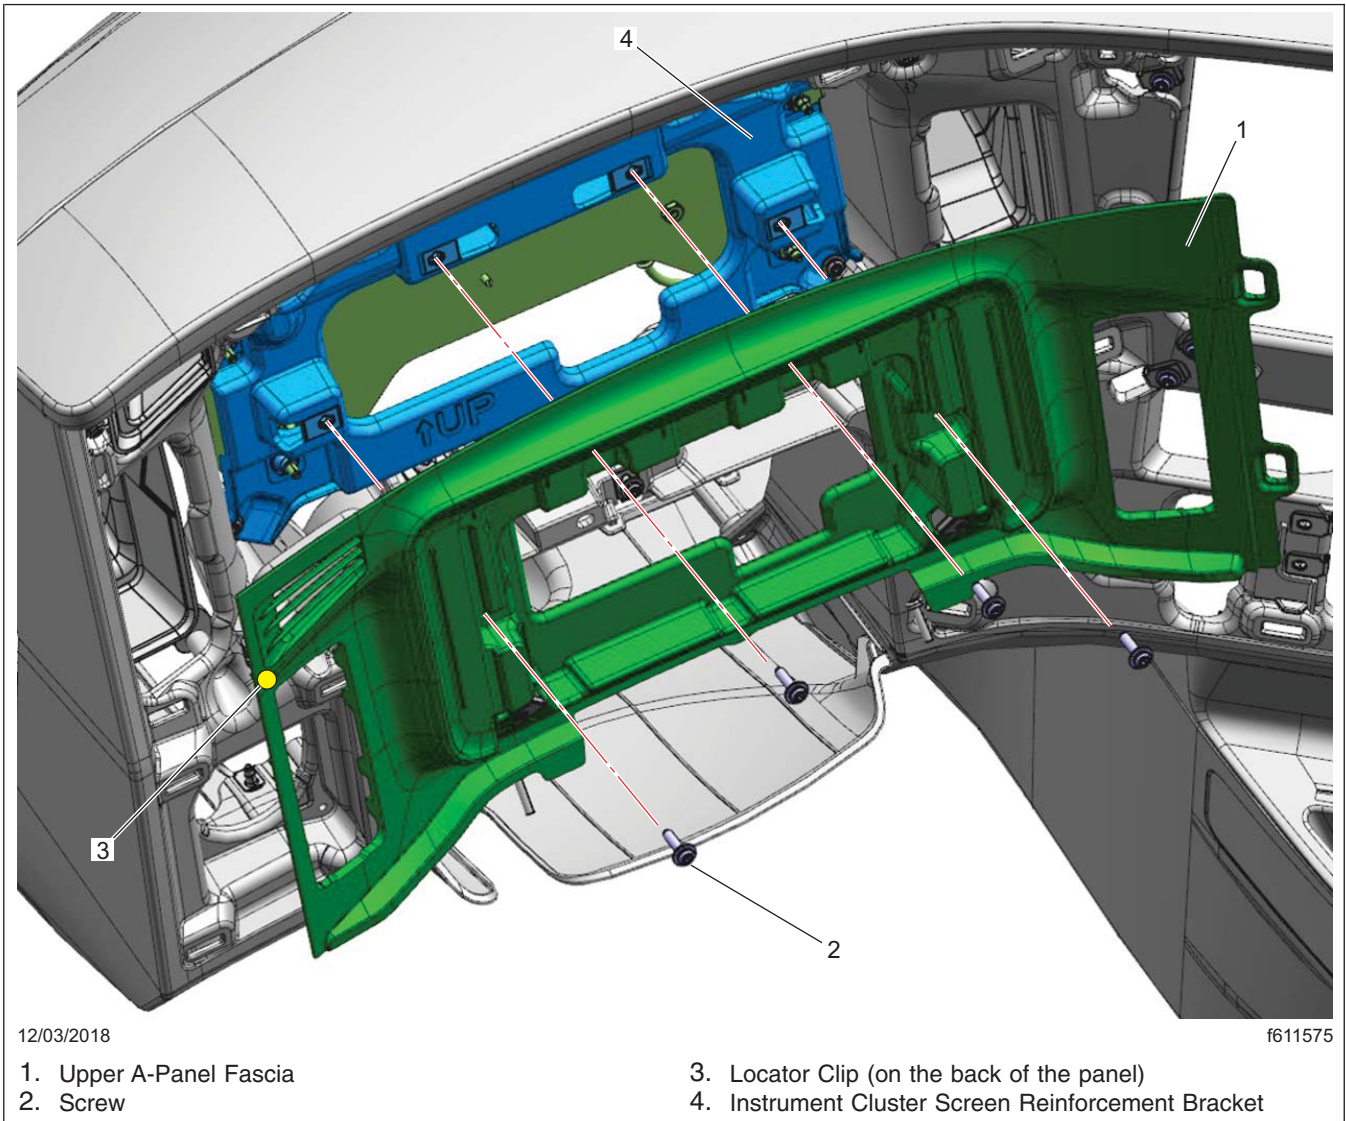

Fig. 6, Upper A-Panel Fascia Removal
5.6 Remove the upper A-panel fascia. See **Fig. 6**.